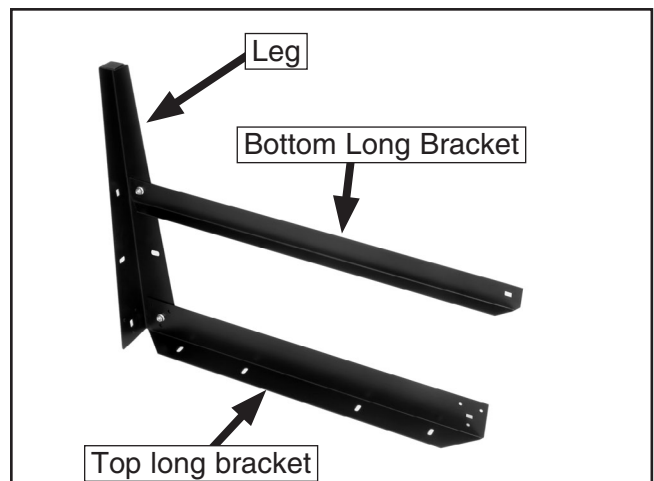

Figure 4. Top and bottom long brackets secured to a stand leg.
1. Mount a top and bottom long bracket to a stand leg and loosely secure with two M8-1.25 x 15 carriage bolts and serrated flange nuts as shown in **Figure 4**.